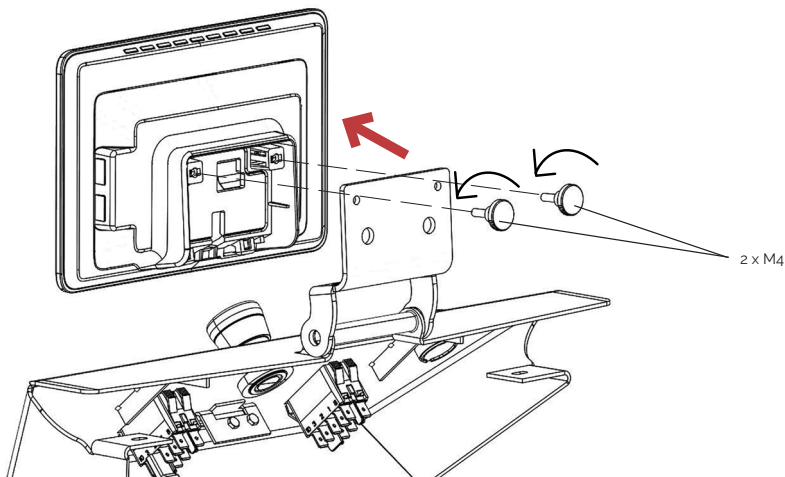

FIGURE 7
3. Remove Monark novo Display Unit bracket (turn the screws counterclockwise) and disconnect Monark novo Display Unit, see fig: 7